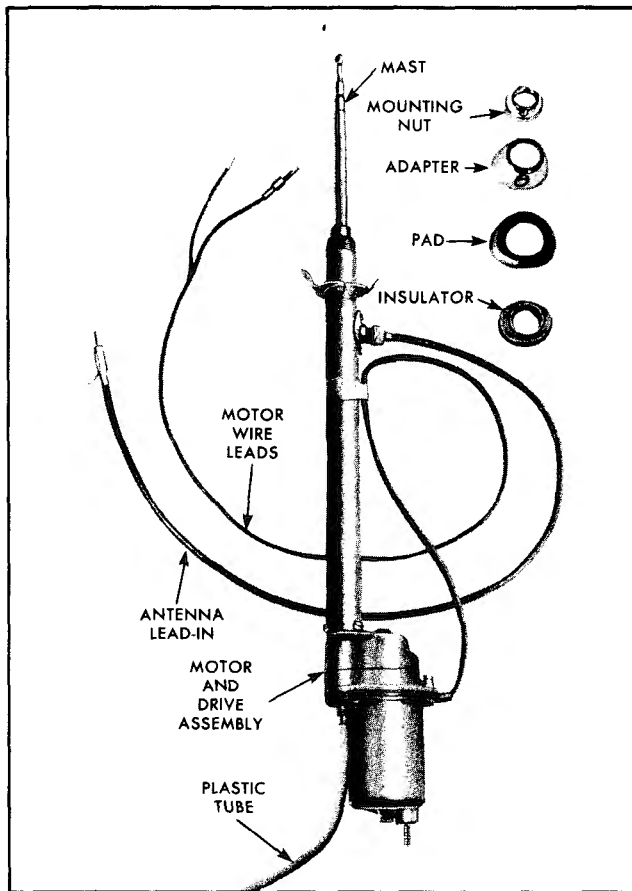

Fig. 14-1 Power Antenna
1. Lower antenna sections and remove upper mounting nut (Fig. 14-1), using Antenna Nut Spanner Wrench J-5185-1; remove adapter and pad.
4. Inspect plastic tube to make sure it is free of any obstruction due to mutilation or broken nylon strip. Insert nylon strip in tube, position tube on antenna assembly as shown in Fig. 14-1 and fasten plastic tube to motor using two attaching screws.